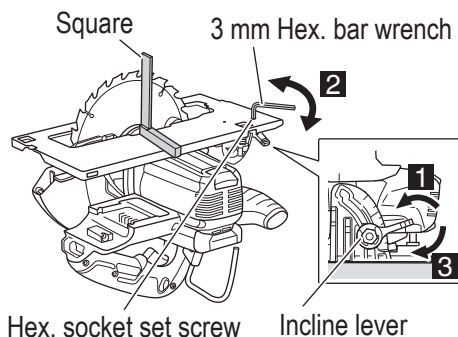

Fig. 36
6. Adjusting the base and saw blade to maintain perpendicularity (Fig. 36)
- (1) Turn the base face up (Fig. 36) and loosen the incline lever.
- (2) Apply a square to the base and the saw blade and, turning the Hex. socket screw with a 3 mm Hex. bar wrench, shift the position of the base to produce the desired right angle.